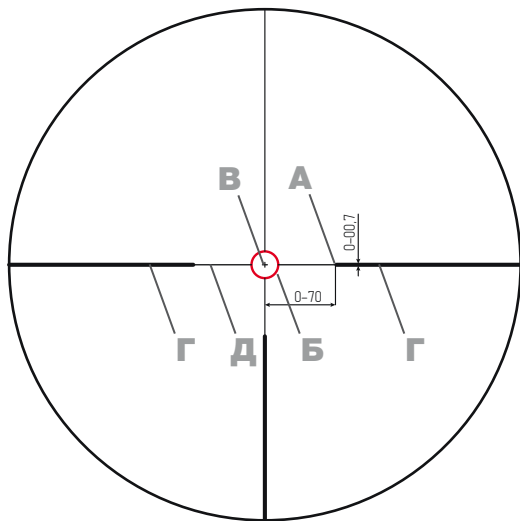

Figure 2
1.4.9 The sight may have one of the three types of reticle: “Hunting cross”, “Fast Cross” or BDC (with a ballistic reticle). The sight’s fields of view with reticles, as well as di-mensions shown in the Figures (shown in the mil distances, further in the text - mils) are given in Figures 2, 3, 4, 5, 6, 7.
1.4.9.1 “Hunting cross” fields of view with magnifications of 1.5× and 6× are given in Figures 2 and 3, respectively.
- aiming point located in the center of the cross-hair – “B” (Figure 2).